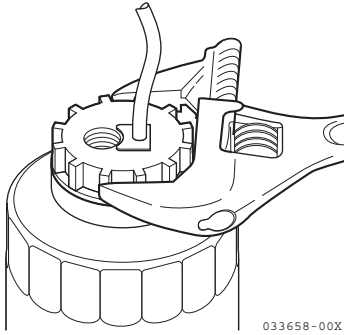

Figure 11
5. Remove the alarm switch (**Figure 10, (3)**) and (**Figure 11**) with a wrench.